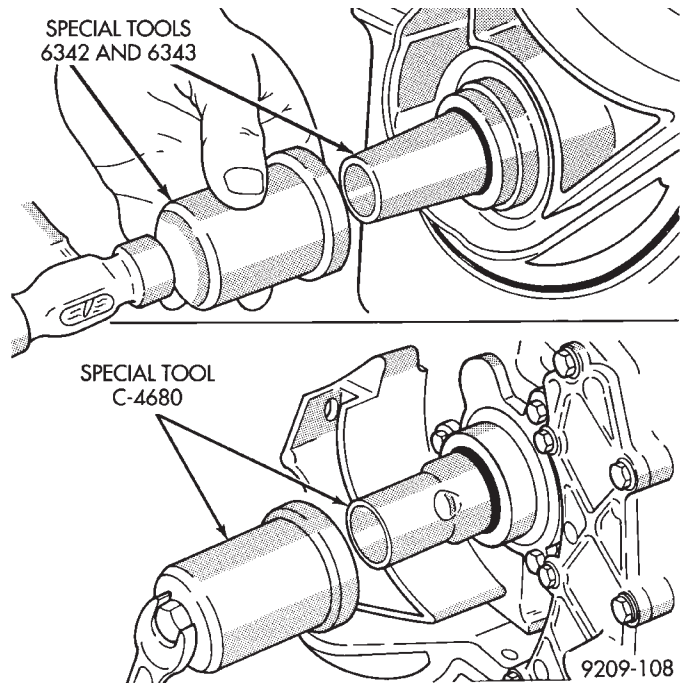

Fig. 10 Installing Crankshaft, Intermediate Shaft, and Camshaft Seal
(5) Remove crankshaft seal using Special Tool 6341. Remove intermediate and camshaft seals using Special Tool C-4679 (Fig. 10).
(6) Shaft seal lip surface must be free of varnish, dirt or nicks. Polish with 400 grit paper if necessary.
(7) Install engine crankshaft seal into retainer using Special Tool 6342 and 6343. Install Intermediate and Camshaft seals using Special Tool C-4680. Install seals until flush (Fig. 10).